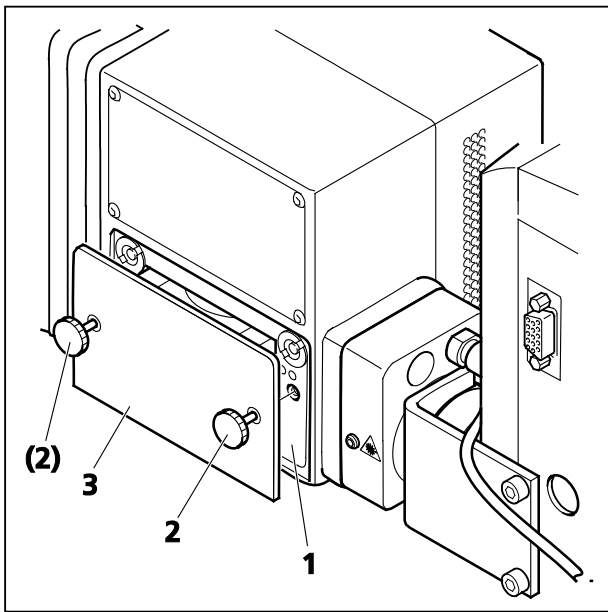

Fig. 34 Filter insert of the LSM *BiG*
- Loosen the two knurled screws (Fig. 34/2).
- Remove the filter insert (Fig. 34/3) of the LSM *BiG* (Fig. 34/1) and put it down.
- After exchanging the filter module, replace the filter insert (Fig. 34/3) into the LSM *BiG* (Fig. 34/1).
- Fasten the two knurled screws (Fig. 34/2).